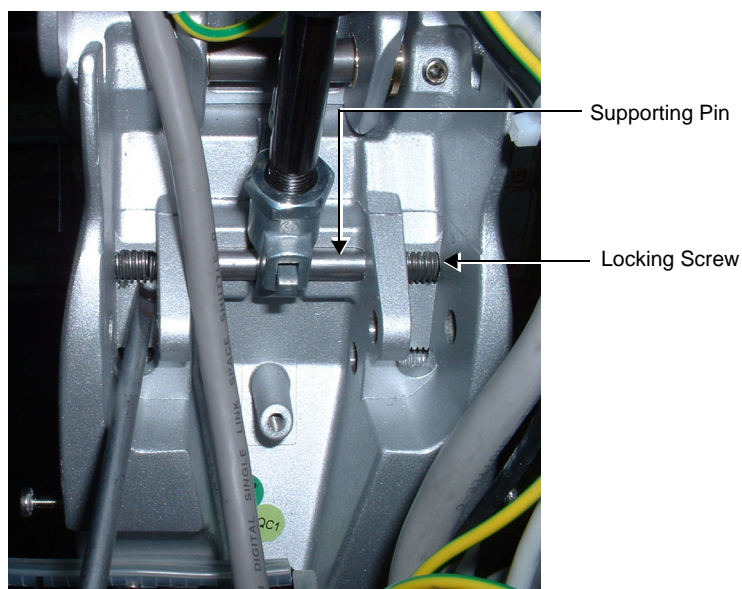

Figure 8-259 Lower Section of Gas Spring showing Connecting Pin and Locking Screws
- 5.) Position the gas spring cable in the Upper Support arm and connect the lower part of the gas spring at the base of the upper support arm - Figure 8-259.
- 6.) Insert the supporting pin, threading it through the brackets and the lower gas spring holder, as shown in Figure 8-259.